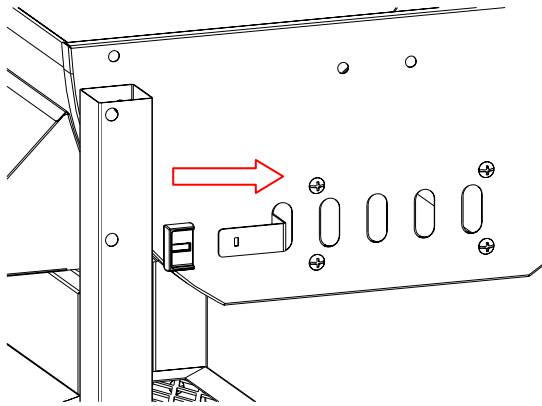

Fig. 13B
*Procedure:* Assemble the Air Damper Handle Sleeve onto the Handle as shown as Fig. 13B.